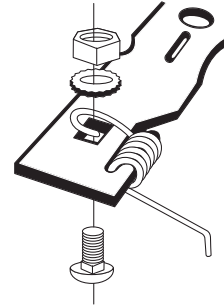
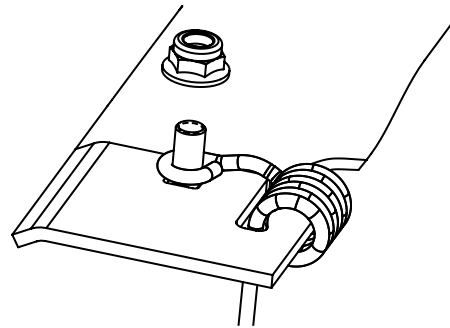

Figure 1
Figure 2
2. Attach bolt as shown in Figure 1. Make sure bolt head is on bottom of bar and nut is tight.
NOTE: Hardware will either be nut and lock washer as seen in Figure 1, or lock nut in Figure 2.